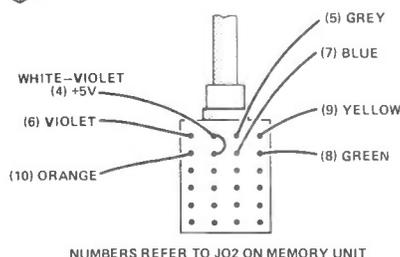

Figure 2: Exploded view of receiver chassis.
9. Refer to **Fig. 2** and remove the locknuts on the band select switch. Remove the S/T screw holding the R/H side of the front sub-panel to the main chassis.
harness strap which is fitted to the bush of S5. If S5 cannot be removed easily, carefully unwrap the harness to release the wiring loom. At this point it may help if the front sub panel is carefully separated from the main chassis by one or two inches max. (See **Fig. 2**).